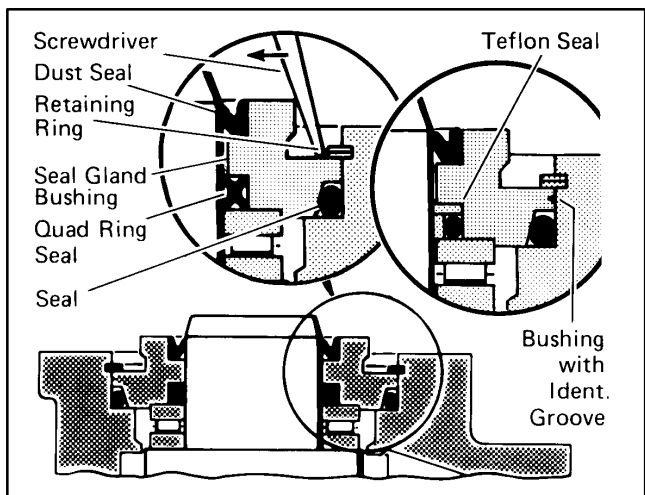

Figure 42
13. Install 1-1/4" diameter dust seal in seal gland bushing, flat or smooth side of dust seal must face down towards bushing, see Fig. 42.
14. Install the quad ring seal in seal gland bushing. Smooth seal in place with your finger. Do not use any seal that falls freely into pocket of bushing, see Fig. 42.